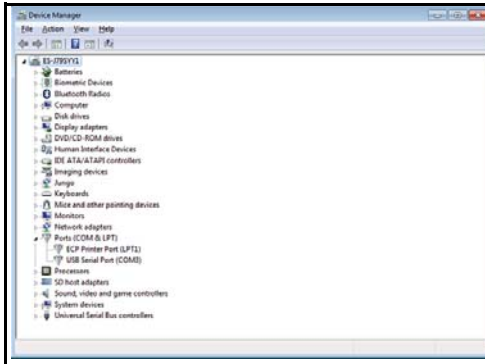

Figure 3: Device Manager Window
5. Open the Control Panel>>Device Manager window and then select Ports (see Figure 3 below). Verify that the PT878 USB port is installed.